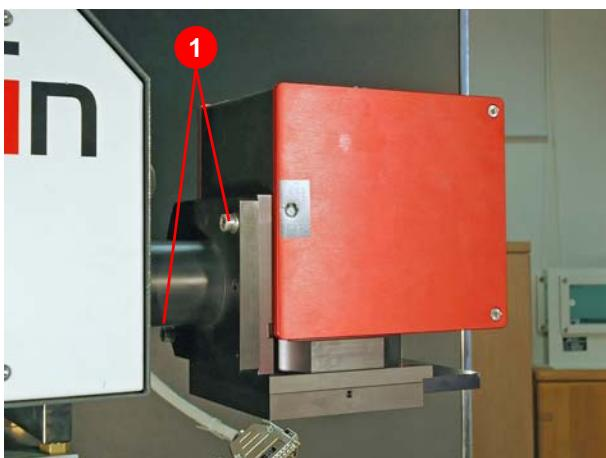

Figure 8.25 Dismantling the galvo head
2. Loosen the fastening screws (1) (Figure 8.25).